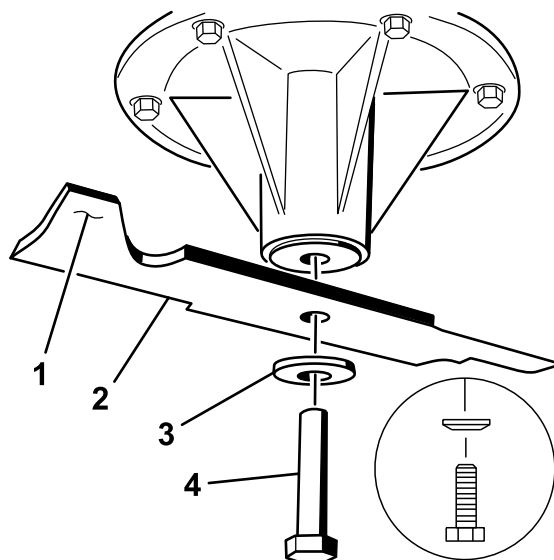

Figure 79
2. Remove the blade bolt, curved washer, and blade from the spindle shaft (Figure 79).
3. If the blade is not balanced, file some metal off the end of the sail area only (Figure 79).